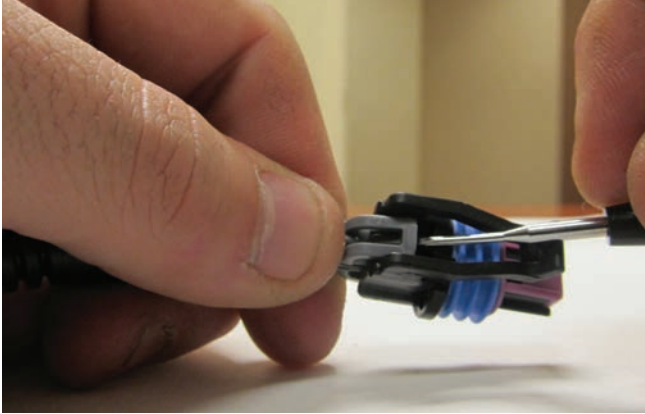

Figure 1
1. Unlatch the TPA (Terminal Position Assurance) by depressing the latch features on each side. A small screwdriver or similar tool can be used to release the latches. **Reference Figure 1.**